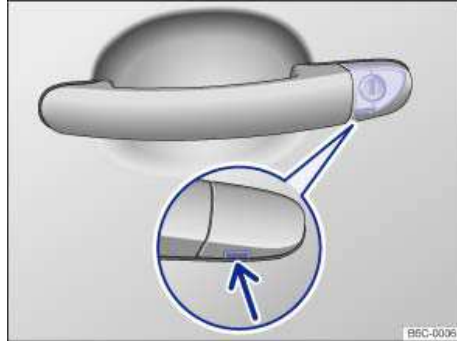

Fig. 148 Door handle on driver door: Concealed lock cylinder.
- Insert the key bit from below into the opening of the cover cap on the driver door ⇒ fig. 148 (arrow) and lift the cover cap off. Grasping the door handle and pulling slightly makes it easier to remove the cap.